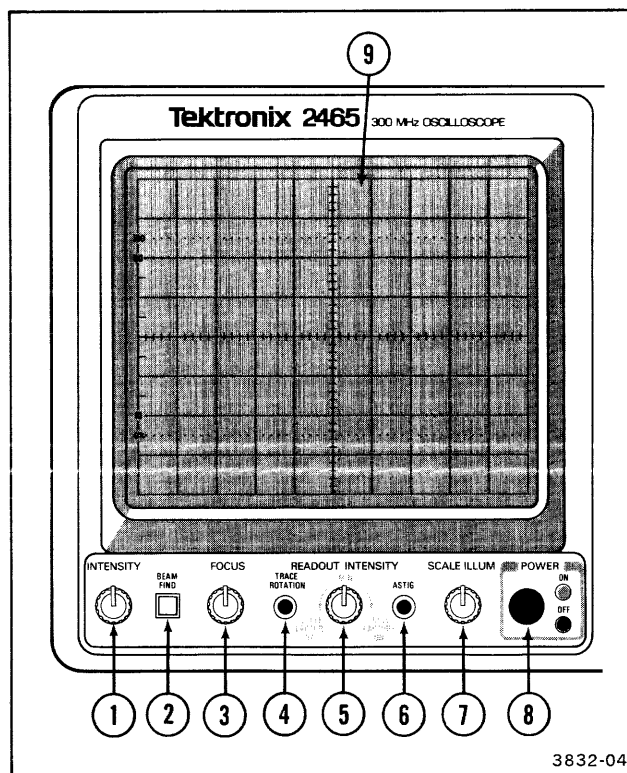

Figure 2-2. Power and display controls.
Refer to Figure 2-2 for location of items 1 through 9.
- ① **INTENSITY Control**—Adjusts brightness of the crt trace display. This control does not affect intensity of the crt readout display.
- ② **BEAM FIND Switch**—When held in, compresses the display to within the graticule area. Aids the operator in locating off-screen displays.
- ③ **FOCUS Control**—Adjusts the display for optimum definition.
- ④ **TRACE ROTATION Control**—Operator-adjusted screwdriver control used to align the crt trace with the horizontal graticule lines. Once adjusted, it does not require readjustment during normal operation of the instrument.
- ⑤ **READOUT INTENSITY Control**—Adjusts the intensity of the crt readout display. This control is also used to either enable or disable the scale-factor display. Setting the control to MIN reduces the readout intensity to minimum. Clockwise rotation from midrange increases the readout intensity and enables the scale-factor display; counterclockwise rotation from midrange also increases the intensity but disables the scale-factor display. Delta Volts and Delta Time readouts and control messages will continue to be enabled even when the scale-factor display is disabled.
- ⑥ **ASTIG Control**—Operator-adjusted screwdriver control used in conjunction with the FOCUS control to obtain a well-defined display over the entire graticule area. Once adjusted, it does not require readjustment during normal operation of the instrument.
- ⑦ **SCALE ILLUM Control**—Adjusts the light level of the graticule illumination.
- ⑧ **POWER Switch**—Turns instrument power on and off. Press in for ON; press again for OFF. An internal indicator in the switch shows green when the switch is on and black when it is off. Front-panel settings that were unchanged for at least 10 seconds prior to power-off will be returned when power is reapplied to the instrument.
- ⑨ **CRT**—Has an 80-mm vertical and 100-mm horizontal display area. Internal graticule lines eliminate parallax-viewing error between the trace and the graticule lines. Rise-time measurement points are indicated at the left edge of the graticule.